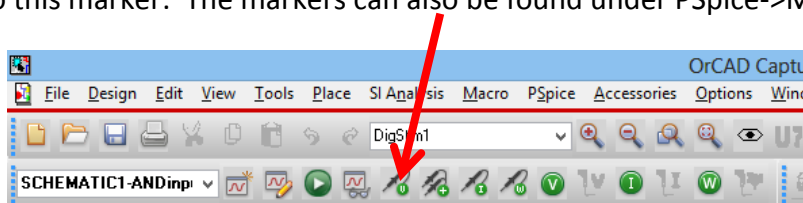
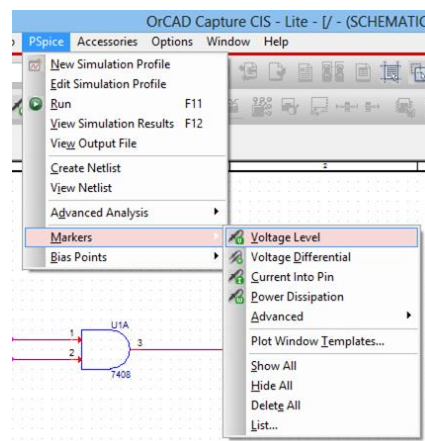

Figure 21: Menu Bar (Page view)
Figure 22: Another way to find the Markers
7. Click on the schematic tab. At the top of the page should look something like figure 21. If you look closely, there are four symbols that look very much alike only with different letters. Click on the Probe (Marker) symbol with the V. This is a voltage marker and once placed on your diagram there will be a signal on the output corresponding to this marker. The markers can also be found under PSpice->Markers (figure 22).